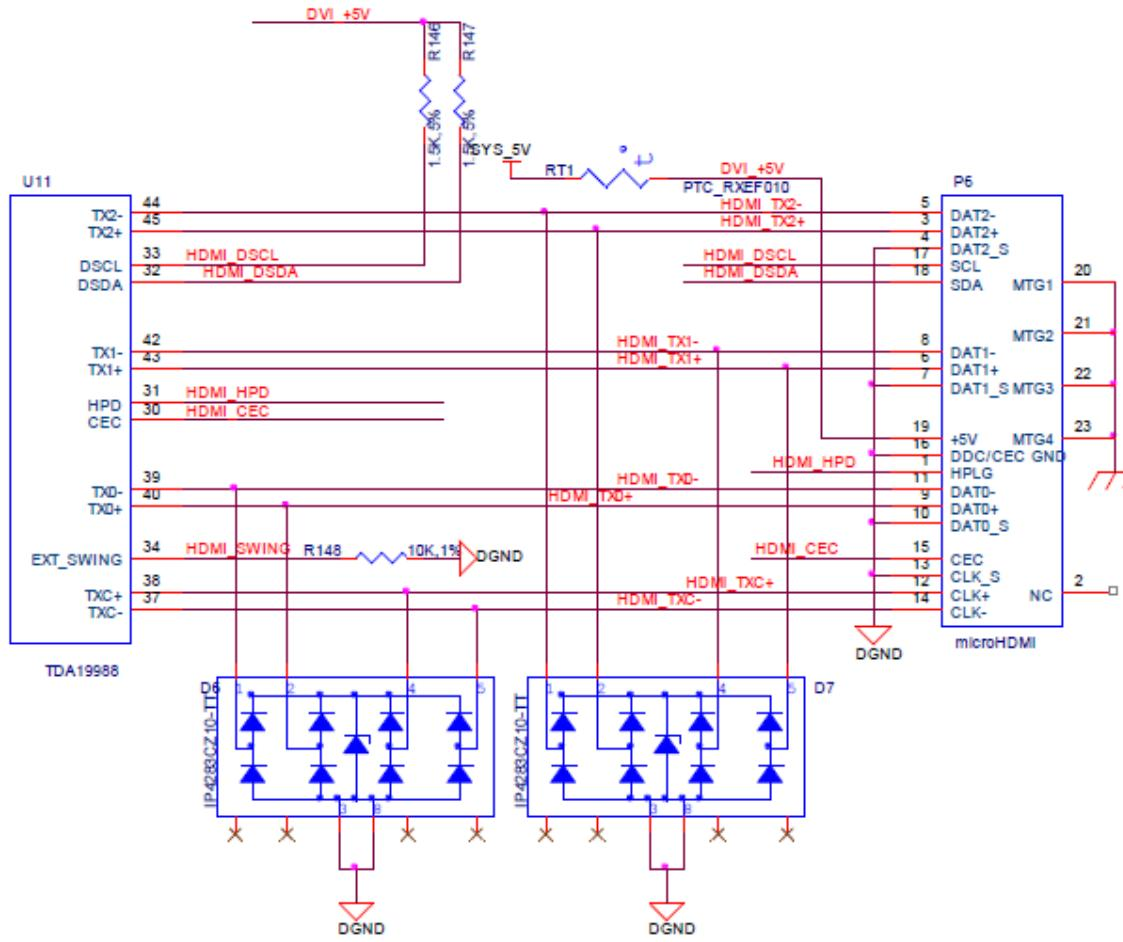

Figure 47 Connector Interface Circuitry
**Figure 47** shows the design of the interface between the HDMI Framer and the connector.